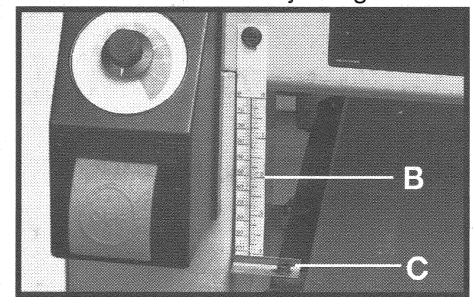

Fig. 9
3. Loosen screw (C) Fig. 9, and position pointer against scale (B) Fig. 9. Tighten screw (C) Fig. 9.